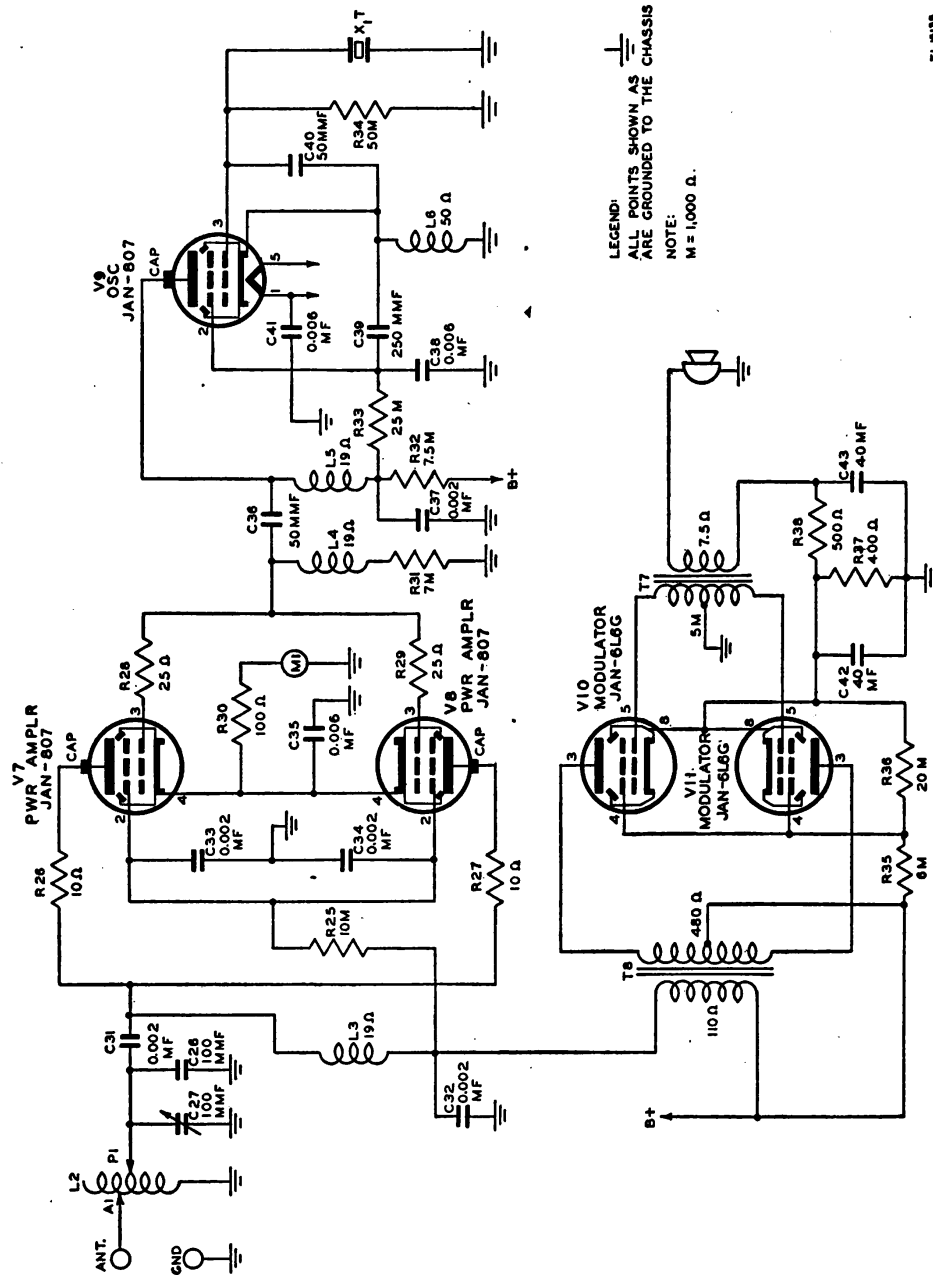

Figure 20. Radio Receiver and Transmitter BC-441-D, simplified transmitter circuit.
Tube JAN-807, V9, is used as a crystal-controlled oscillator with the grid, cathode, and screen grid as the oscillator elements (fig. 20). The desired crystal is selected by one section of CRYSTAL SELECTOR switch S2. Regeneration to produce oscillation is obtained by dividing the voltage by means of C39 and C40. Choke L6 forms a d-c path to ground from the cathode of V9. Grid bias is developed across resistor R34. Filament, screen grid, and plate return are bypassed by capacitors C41, C38, and C37 respectively. Plate voltage is obtained through resistor R32 and is reduced to the proper value for the screen grid by resistor R33. The r-f oscillation is amplified in the plate circuit of V9, and the output signals appear across choke L5.
a. The oscillator output is fed to the grids of Tubes JAN-807, V7 and V8, through coupling capacitor C36 (fig. 20). V7 and V8 are operated as parallel Class C power amplifiers. Bias is obtained partly by cathode resistor R30 and partly by grid resistor R31. Choke L4 reduces the loading effect of R31 on the oscillator. Plate resistors R26 and R27 and grid resistors R28 and R29 suppress parasitic oscillations in the power amplifier. The cathodes are bypassed at radio frequencies by capacitor C35, the screen grids by capacitors C33 and C34, and the modulated plate supply by capacitor C32. Screen voltage comes from the modulated plate supply through resistor R25, and plate voltage through the parallel-